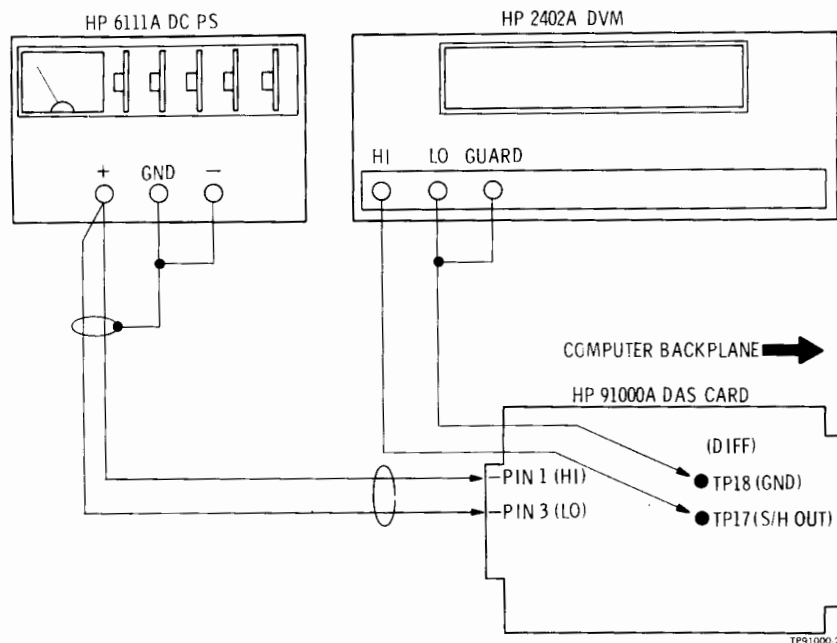

Figure 4-3. CMR Test Setup
- a. Connect test equipment to DAS as shown in Figure 4-3.